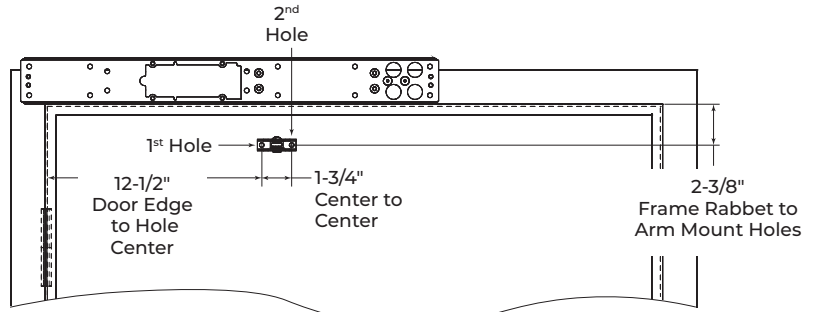

Fig. 4
- Using the template (available for download from www.nortonrixson.com), measure and mark the door for the first forearm shoe mounting hole. (Fig. 4)
- Using the forearm shoe as template, mark and drill the second mounting hole. (Fig. 4)